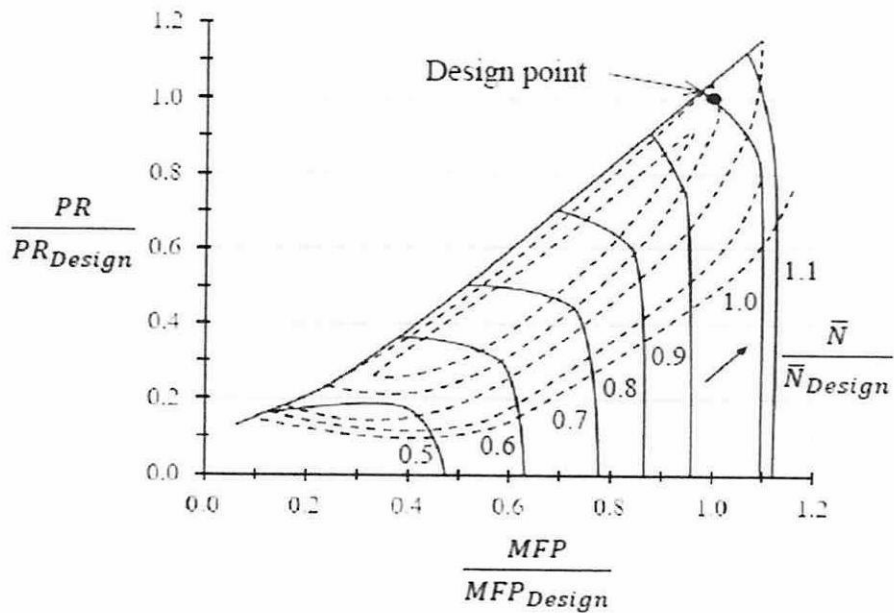

Figure Q4
**Q4** Figure Q4 shows the characteristic map of a centrifugal compressor. The map presents the performance parameters which are normalized by design values, namely pressure ratio ( $PR/PR_{\text{Design}}$ ), pseudo-dimensionless mass flow ( $MFP/MFP_{\text{Design}}$ ) and pseudo-dimensionless speed ( $\bar{N}/\bar{N}_{\text{Design}}$ ). The design point is also marked on the compressor map. At 80% design speed ( $\bar{N}/\bar{N}_{\text{Design}} = 0.8$ ), the compressor operates at the following conditions: